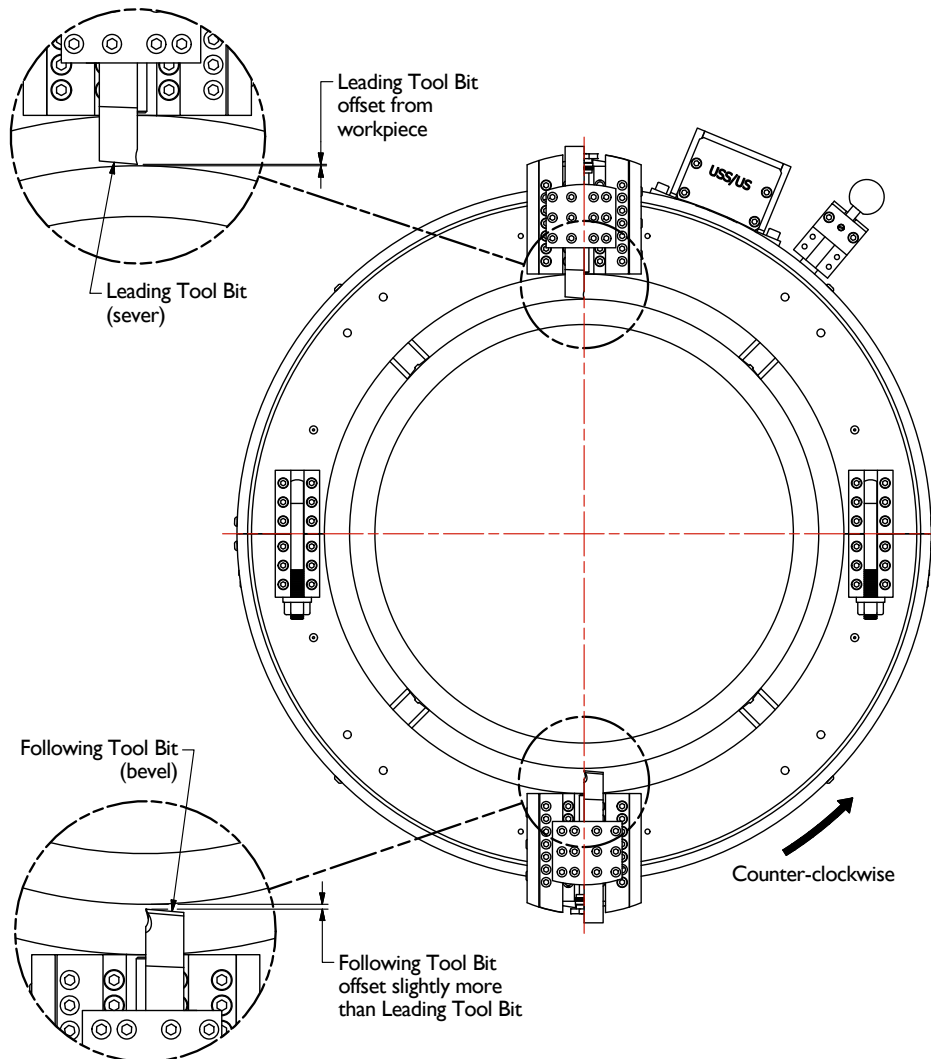

Figure 12 - Set Leading/Following Tool Bits
- 15.** Back the following tool bit away from the workpiece slightly more than the leading tool bit. This will allow the leading tool bit to begin the cut before the following tool bit. As the cut is made further tool bit adjustment may be required. See Figure 12.